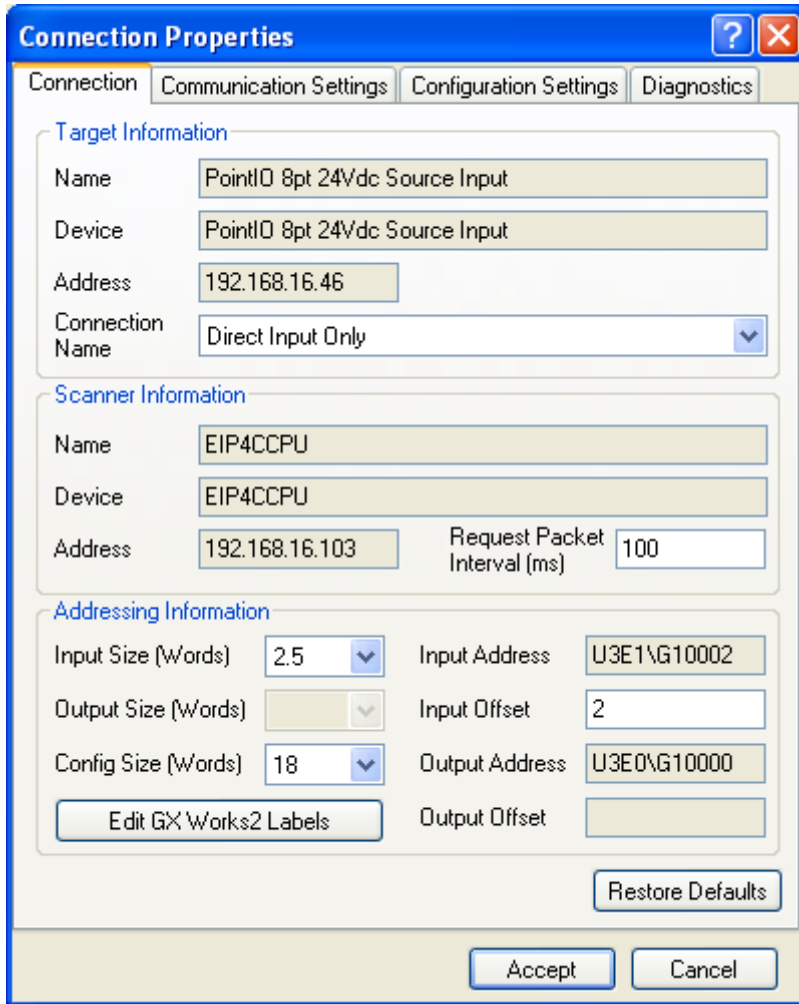

Figure 52: Module Connection Properties
6. If multiple revisions exist for a module, the module can be expanded to display the available revisions. Select the 1734-IV8 (PointIO 8pt 24Vdc Source Input) and select the Slot in which the module resides in. Note that the modules can be displayed by Name or Catalog. Click Next to configure the module's Connection Properties (see Figure 52).